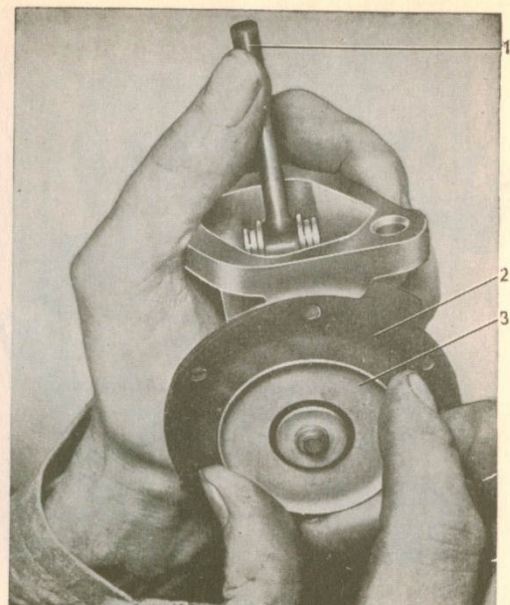

Fig. 1-81. Replacing the diaphragm
2. Hold the pump as shown in Fig. 1-81. Remove the old diaphragm by pressing it down and turning it a quarter of a turn.